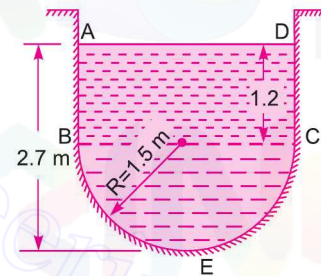

Fig. 16.5
**Problem 16.6** Find the discharge of water through the channel shown in Fig. 16.5. Take the value of Chezy's constant = 60 and slope of the bed as 1 in 2000.
$$\text{From Fig.16.5, Area, } A = \text{Area } ABCD + \text{Area } BEC$$